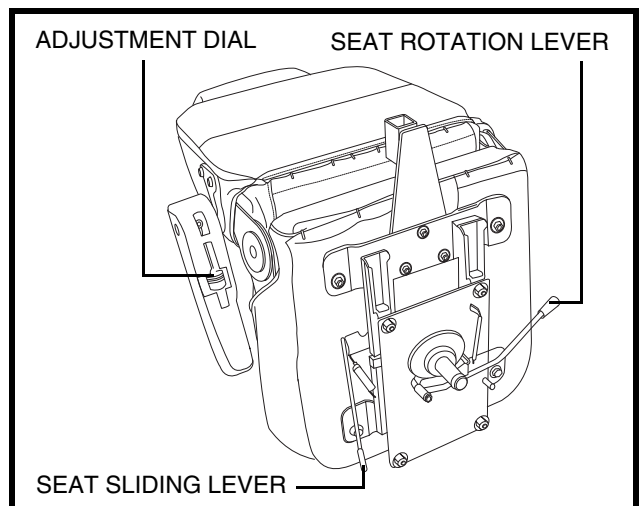

Figure 18. Seat Position Adjustments
1. Move the seat sliding lever located at the lower left side of the seat outward. **See figure 18.**